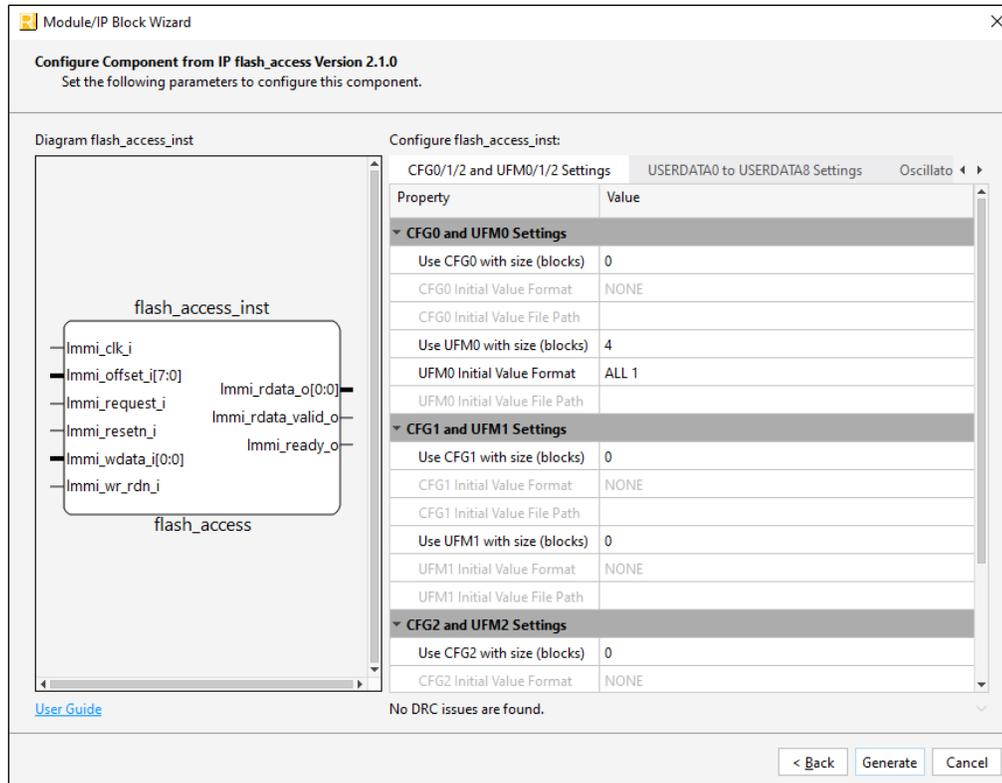
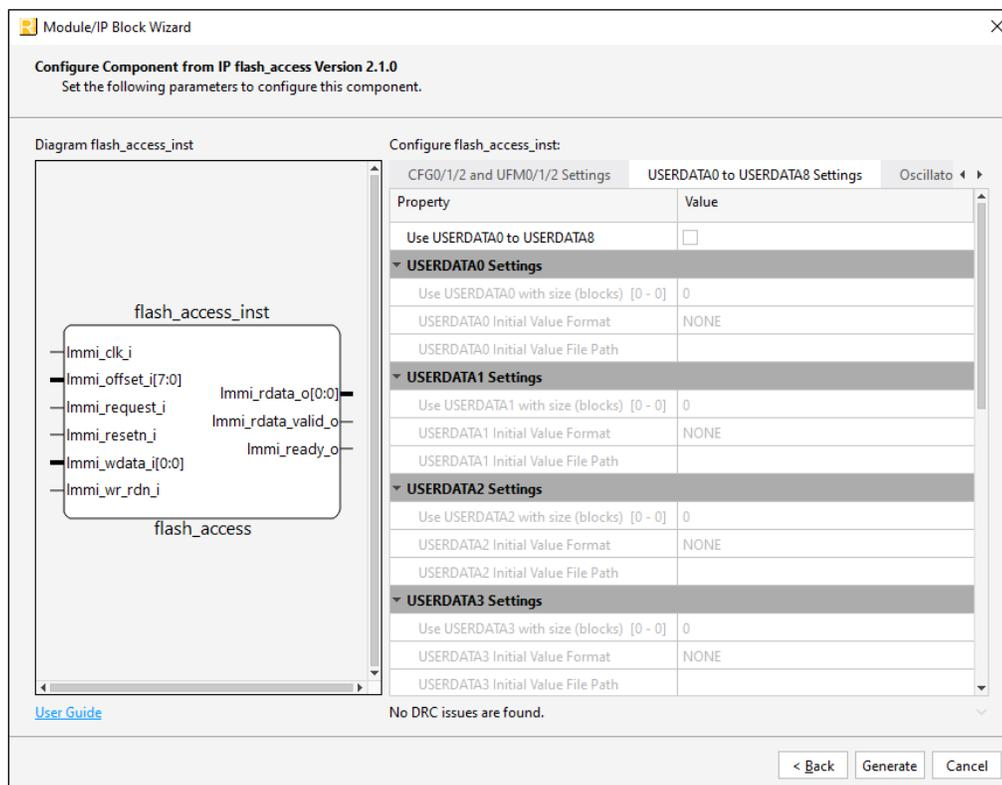
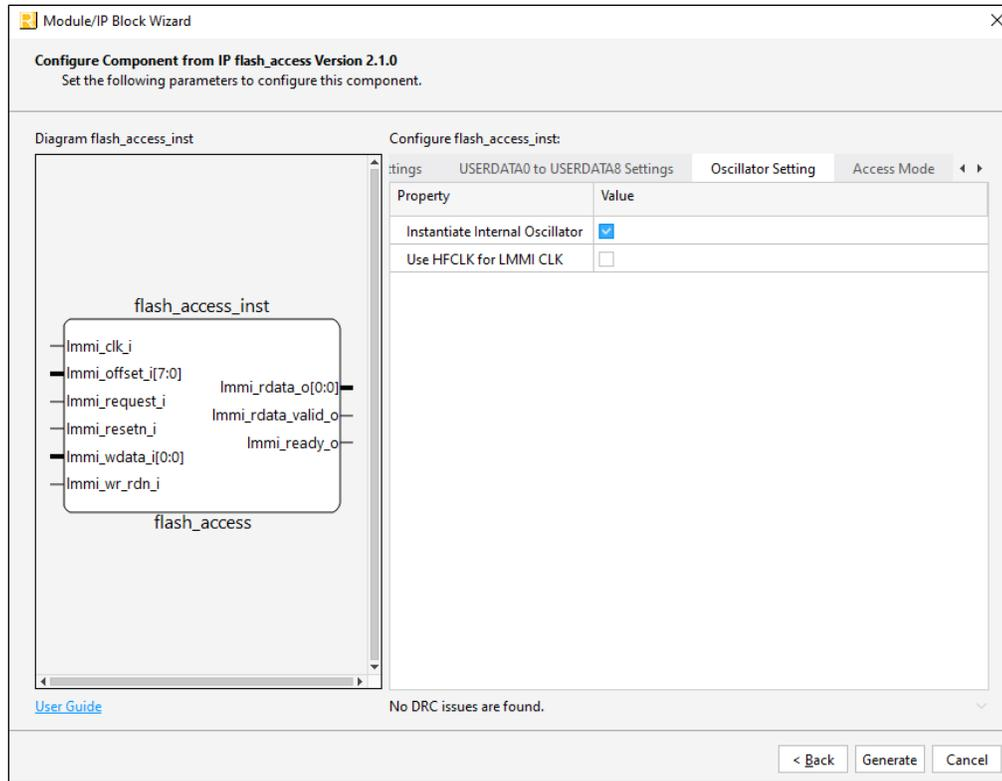
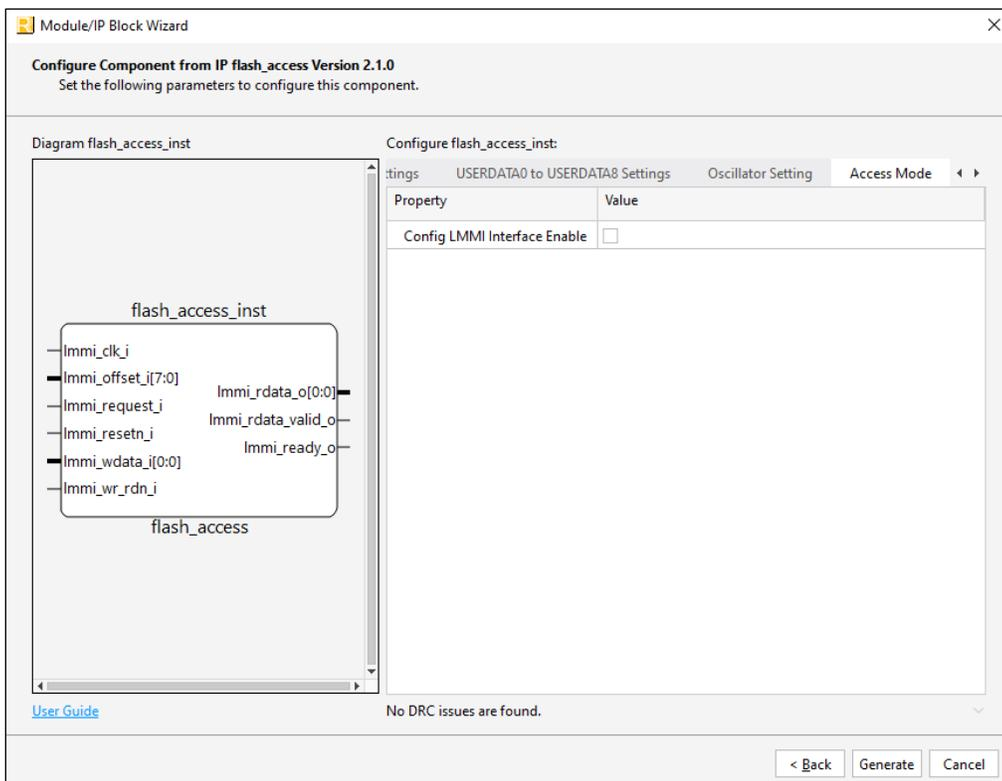

Figure 6.2. Configure User Interface of Flash Access for MachXO5-NX IP Core – CFG0/1/2 and UFM0/1/2/3 Settings
Figure 6.3. Configure User Interface of Flash Access for MachXO5-NX IP Core – USERDATA0 to USERDATA8 Settings
Figure 6.4. Configure User Interface of Flash Access for MachXO5-NX IP Core – Oscillator Settings
Figure 6.5. Configure User Interface of Flash Access for MachXO5-NX IP Core – Access Mode
3. In the **Module/IP Block Wizard** window, customize the selected Flash Access for MachXO5-NX IP Core using drop-down menus and check boxes. For a sample configuration, see Figure 6.2, Figure 6.3, Figure 6.4, and Figure 6.5. For configuration options, see the General section.
4. Enable Config LMMI Interface to access CONFIG_LMMI primitive. This option is unchecked by default (Figure 6.5).